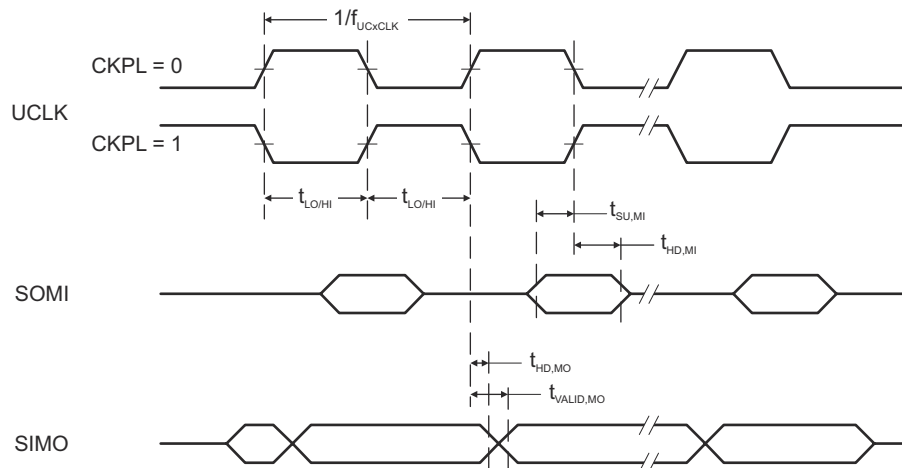
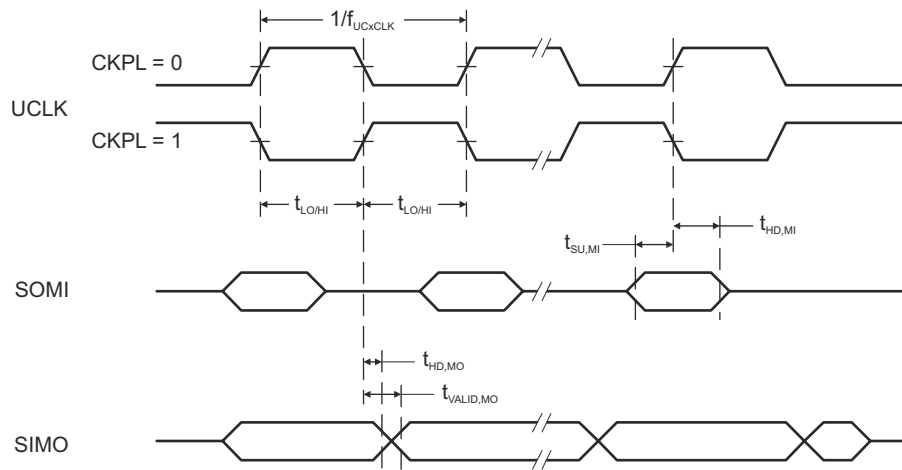

图 7-12. SPI Master Mode, CKPH = 0
图 7-13. SPI Master Mode, CKPH = 1
(2) Specifies the time to drive the next valid data to the SIMO output after the output changing UCLK clock edge. See the timing diagrams in 图 7-12 and 图 7-13.
(3) Specifies how long data on the SIMO output is valid after the output changing UCLK clock edge. Negative values indicate that the data on the SIMO output can become invalid before the output changing clock edge observed on UCLK. See the timing diagrams in 图 7-12 and 图 7-13.